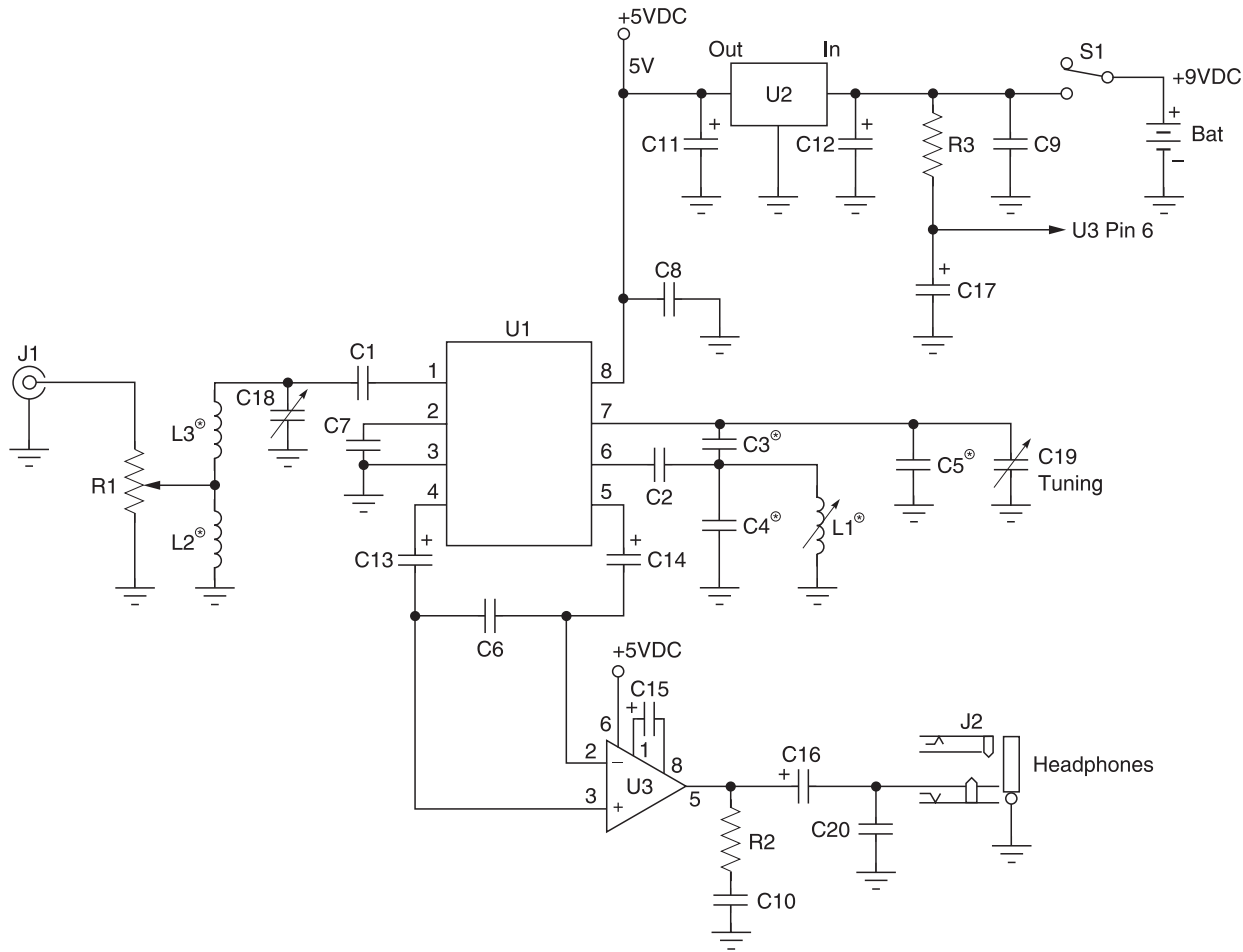

Figure 9-2 80/40 meter direct conversion amateur radio receiver. Courtesy of Vectronics
The circuit diagram shown in Figure 9-2 illustrates the schematic for the 80/40 Meter Direct Conversion Receiver. A dipole or suitable antenna is fed directly to input jack J1, which is coupled to potentiometer R1, which serves as a continuously variable RF attenuator and also serves as the receiver's gain control. Using the RF gain control to set volume is advantageous as it also reduces strong in-band signals that could otherwise overload the receiver front end. Series inductors L2 and L3, and trimmer capacitor C18, provide front-end bandpass filtering, and an impedance match to 50 to 75-ohm antenna systems. IC U1 is an NE602/612 mixer and Local Oscillator (LO) in an 8-pin dip package. The mixer section is an active Gilbert cell design for good conversion gain and low noise figure. The LO section uses heavy capacitive loading to minimize frequency drift. Tuning is capacitive, using a modern Hi-Q miniature plastic variable. The local oscillator (LO) stability is enhanced by a 78L05 voltage regulator.